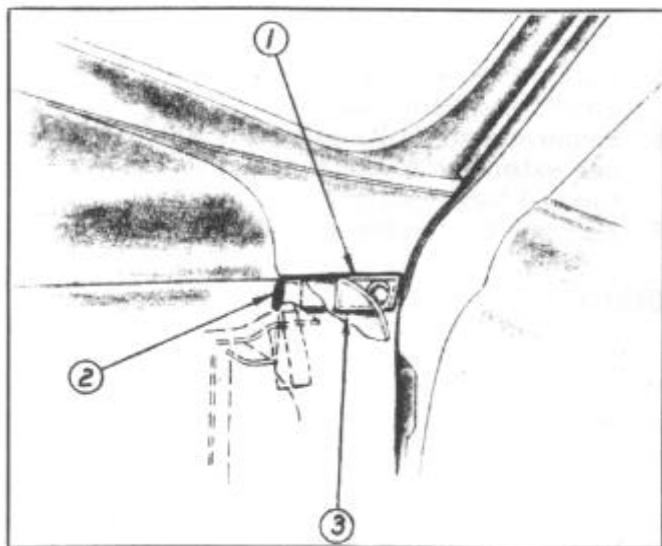

FIGURE 106
- A. Apply a bead of Dolphinite Sealer to the top or outside joint of fender and front end panel flange shown as (1), Figure 106. Apply sealer carefully and wipe away excess sealer with a clean cloth. If after wiping, the sealer leaves a poor paint appearance, touch up with body color after allowing sealer to set for fifteen minutes.
- B. With the front door open, press a strip of Body Caulking to the joint of fender flange and cowl side panel shown as (3) to form a seal tight between the front fender filler and door opening weatherseal.
- C. Open the hood and apply a bead of Permagum sealer to the exposed joint of fender and cowl panel shown as (2), Figure 106.